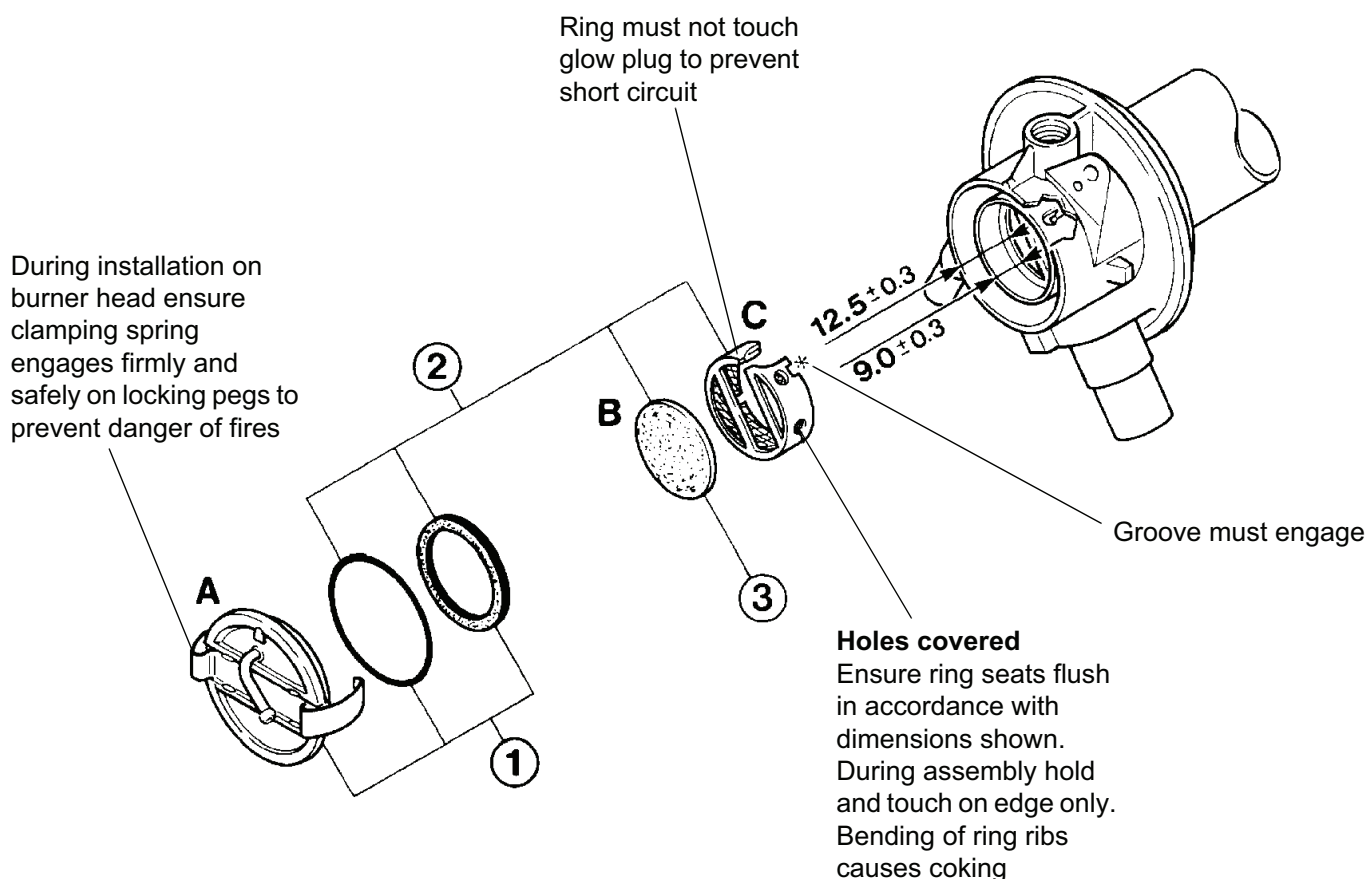
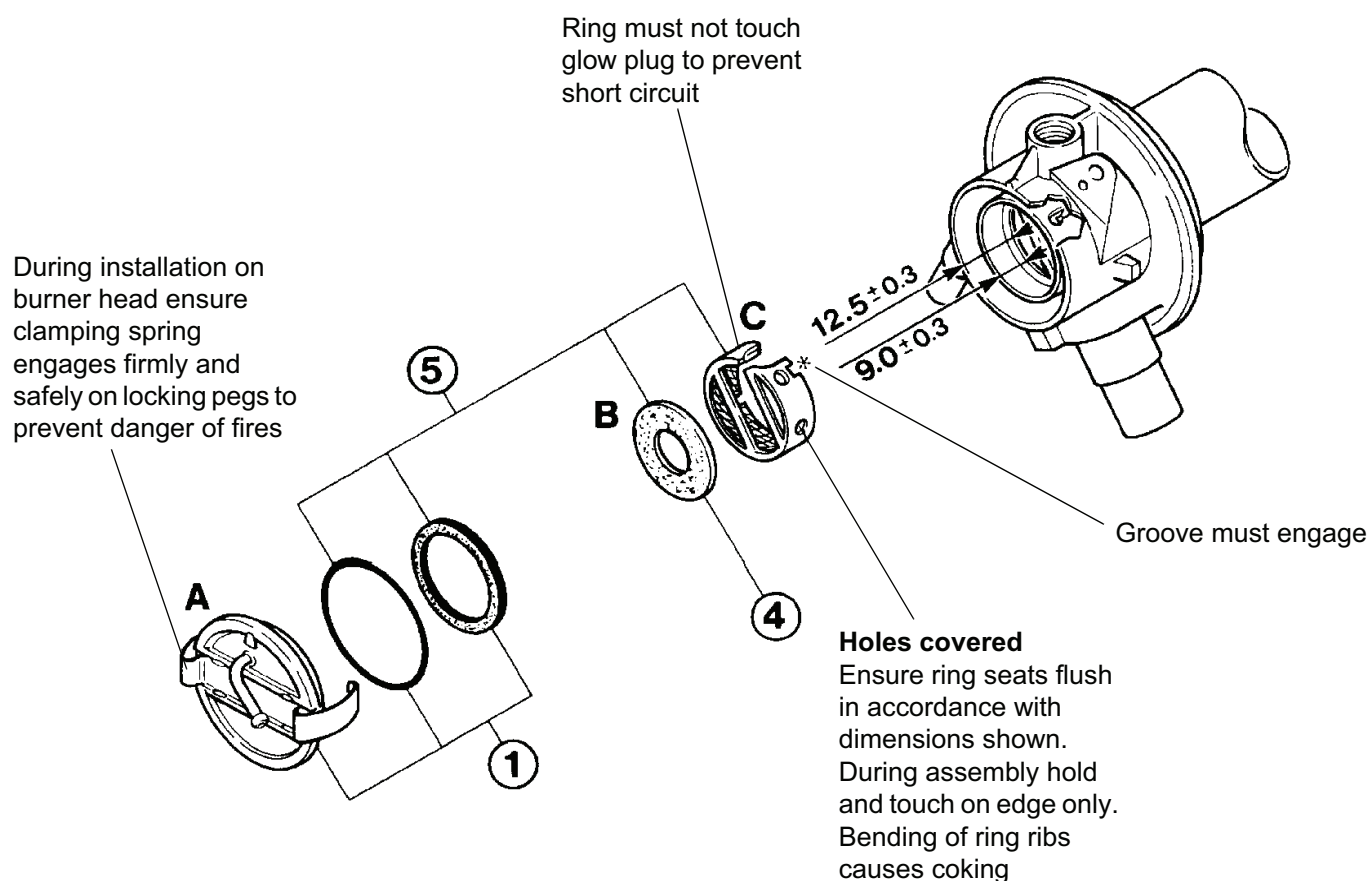

Fig. 909 Assembly Procedure for Burner Head, Fuel Version
Fig. 910 Assembly Procedure for Burner Head, Diesel Version
The felt disk is different for the fuel and Diesel versions (see Fig. 909 and Fig. 910). During assembly all components, except for the cover, must be renewed (O-ring, felt disk, ring and gasket).
1. Install felt ring observing assembly procedure according to Fig. 909 (BBW 46) or Fig. 910 (DBW 46).